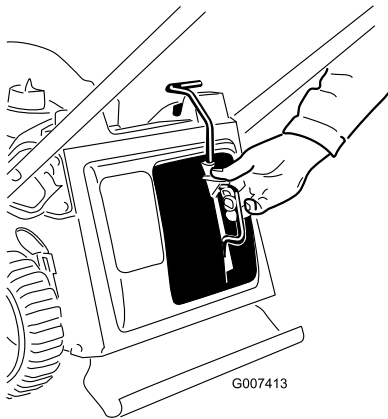

Figure 9
2. Squeeze the button on the lever with your thumb and fully insert the mulch plug into the opening (Figure 9).